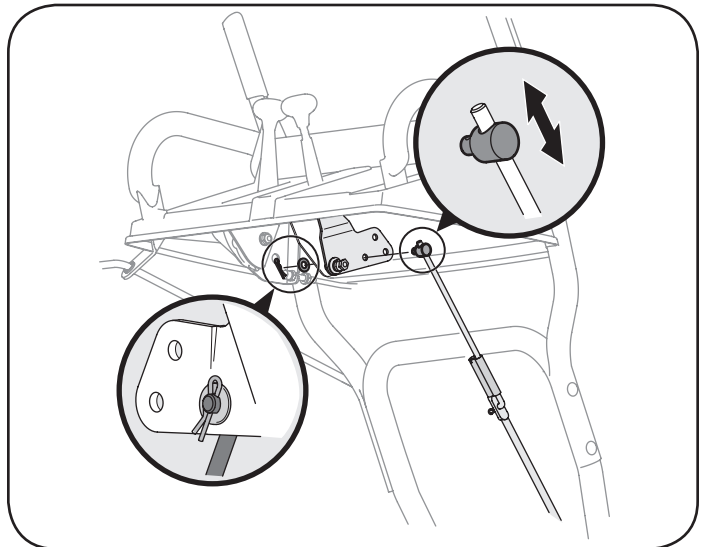

Figure 19
1. Looking underneath the handle panel, note which of the three holes in the shift lever the ferrule is inserted into. Also note the direction of insertion. Then remove the internal cotter pin and flat washer from the ferrule and withdraw the ferrule from the shift lever. See Figure 19.
2. Place shift lever in sixth (6) position or fastest forward speed.
4. As necessary, rotate the ferrule up or down the shift rod until the ferrule lines up with the hole from which it was earlier removed. See Figure 19.